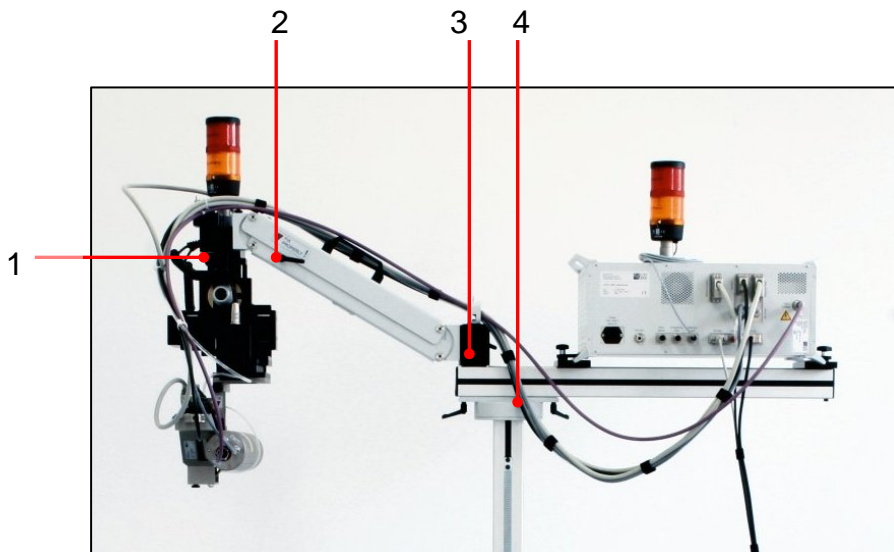

Fig. 39: Adjustment points on the tripod for cantilever and floating arm
(see Fig. 39, pos. 4):**
Turn and swivel floating arm (see Fig. 39, pos. 3):
Raise and lower floating arm (see Fig. 39, pos. 2):